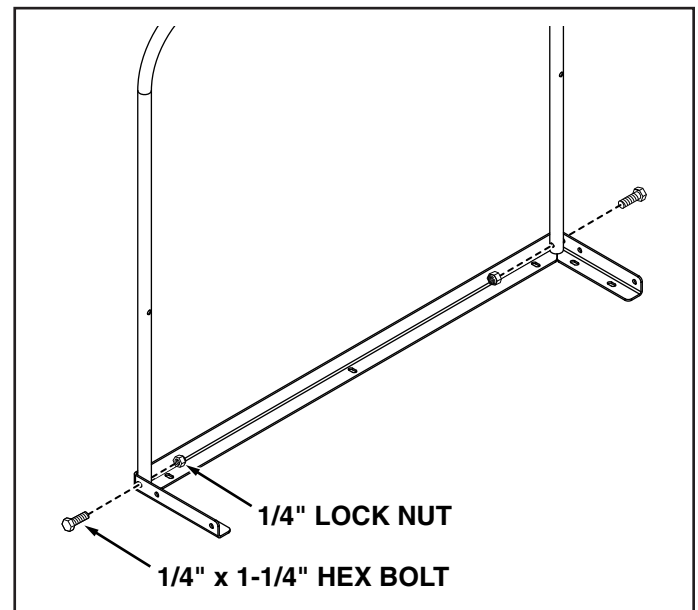

FIGURE 23
- Secure front support tube to top angle support using two 1/4" x 1-1/4" hex bolts and 1/4" lock nuts. **DO NOT TIGHTEN YET.** See figure 23.